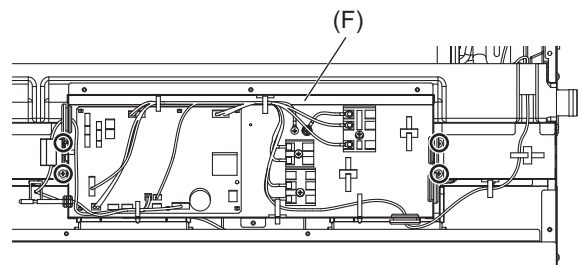

Fig.5
3. Remove the fixing screws on the control box (F), to remove it. (Fig. 5)